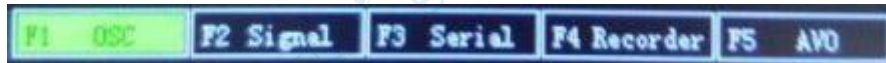

Figure 2-2 Instrument selection function interface
5. Long press "MENU" button, can enter the instrument function interface, can choose by F1 ~ F5 select button. As shown in figure 2-2